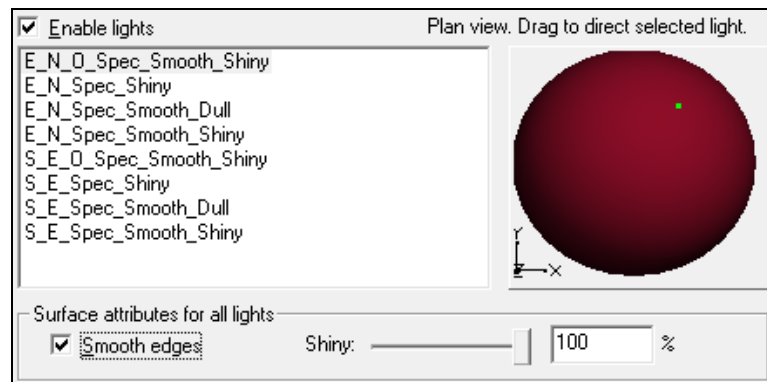

Figure 3 Lighting tab showing lighting direction
18. Click and drag the sphere until the dot is as shown in Figure 3. This gives good lighting contrast for the 3D view.